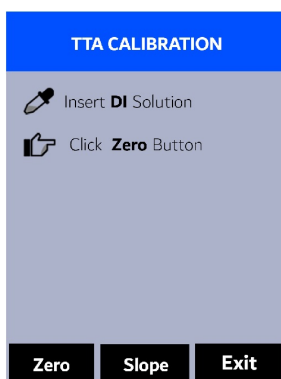

Figure 4.
3. Press **Calib** (⏮ or ⏭) to launch the **TTA CALIBRATION** screen (Figure 4).